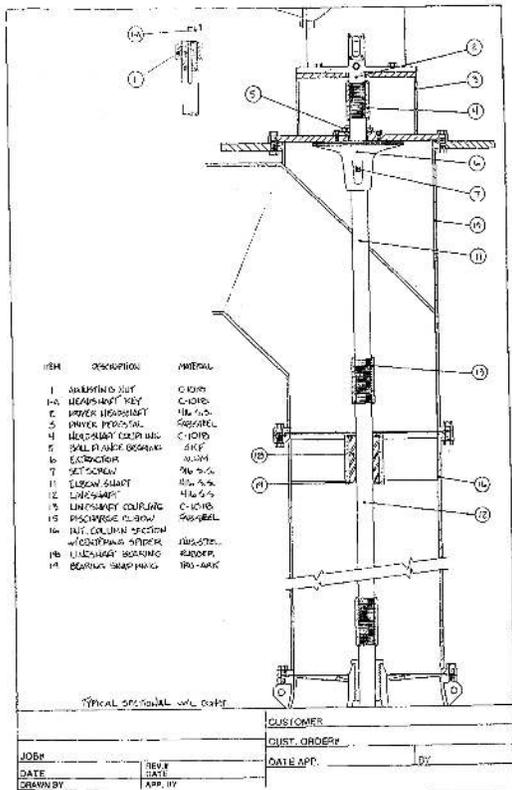

Figure 8: Packingless Design
(A) PACKINGLESS DESIGN PROCEDURE (figure 8): A propeller, shown in figure 9, is designed to operate best approximately half way between its upper and lower limits of travel in the cylindrical section of the discharge or intermediate bowl.